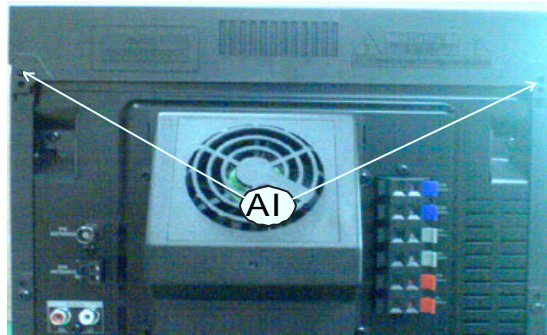

Figure1
- 2 screws "AI" on the back panel as shown in figure1